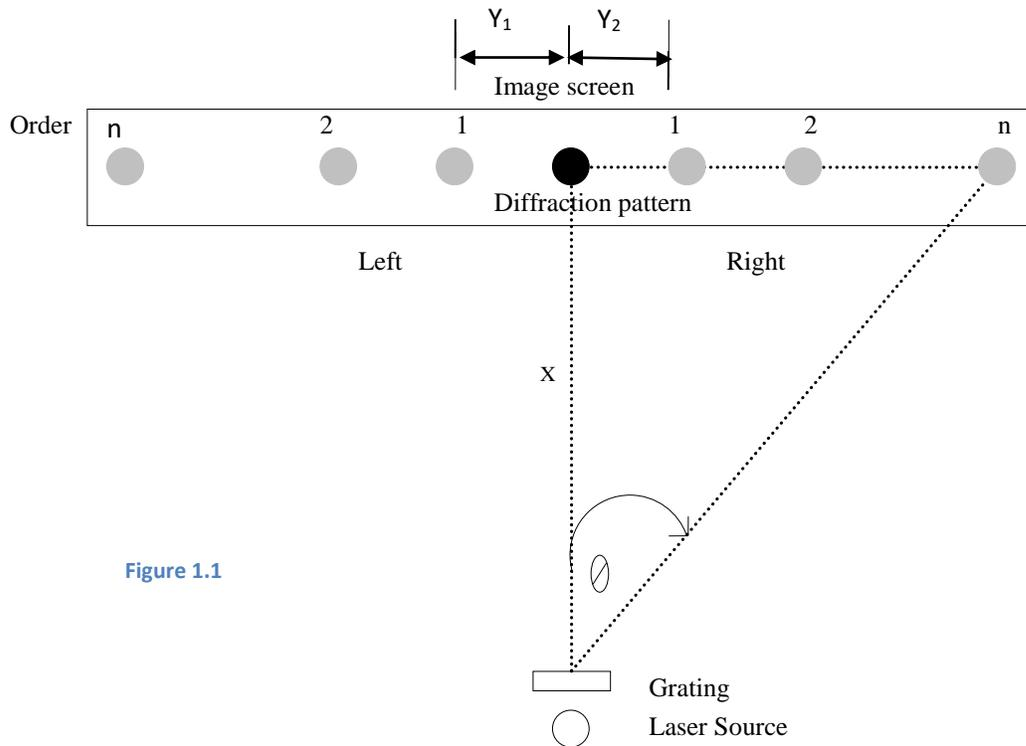

Figure 1.1
1. The grating is placed on grating stand and the LASER is aligned such that the beam is incident on the grating. Distance between the grating and the screen is adjusted for 1 meter (X) or 100 cm.
2. The laser beam is incident normally on the grating. Diffraction pattern is obtained on the screen as in Fig 1.1.